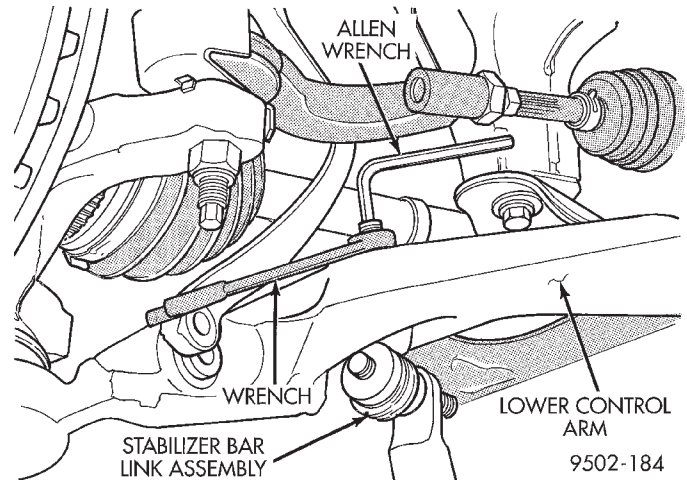

Fig. 61 Stabilizer Bar Attaching Link Nut Removal
(1) Raise vehicle on jack stands or centered on a frame contact type hoist. See Hoisting in the Lubrication and Maintenance section of this manual, for the required lifting procedure to be used for this vehicle.
(2) Remove nuts and stabilizer bar attaching link assemblies from the front lower control arms (Fig. 61). When removing attaching link nut, keep stud from turning by installing a hex wrench in the end of the stud (Fig. 61).